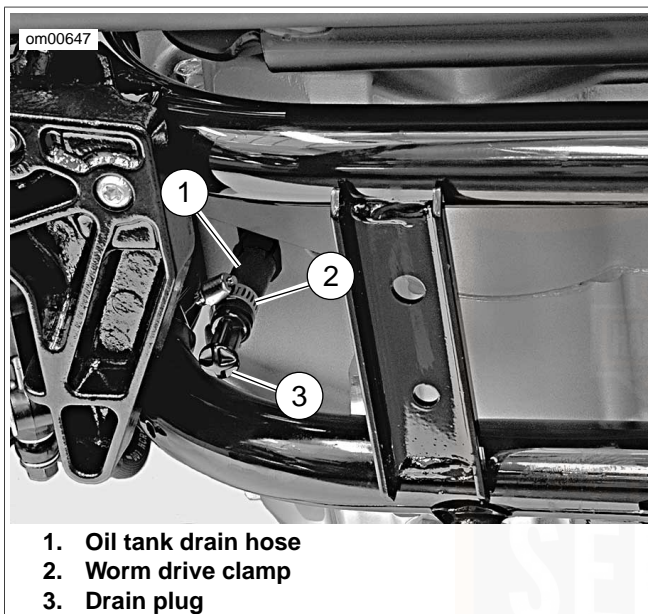

Figure 32. Oil Tank Drain Hose and Bracket: Sportster Models (XL Model Shown)
3. See Figure 32. Place a suitable container directly under the drain hose (1) at the bottom rear of the engine crankcase. The container must be able to hold approximately 3 U.S. quarts (2.8 liters).
4. Loosen worm drive clamp (2) and pull drain plug (3) from end of drain hose. Completely drain engine oil from oil tank. It is not necessary to drain engine crankcase.